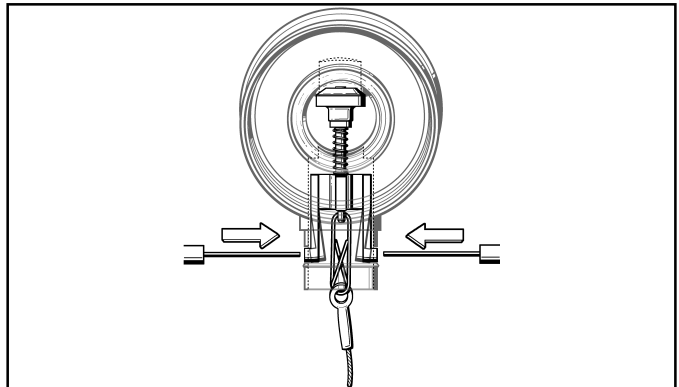

Figure 10
2.1.7 Locate the two holes on opposite sides of the barrel of the dual valve body which hold the arms of the poppet guide(9). To remove the poppet guide and exhaust valve assembly from the dual valve body, press the arms of the poppet guide inward by simultaneously inserting two small probes through the opposing holes in the barrel (see Fig. 10).